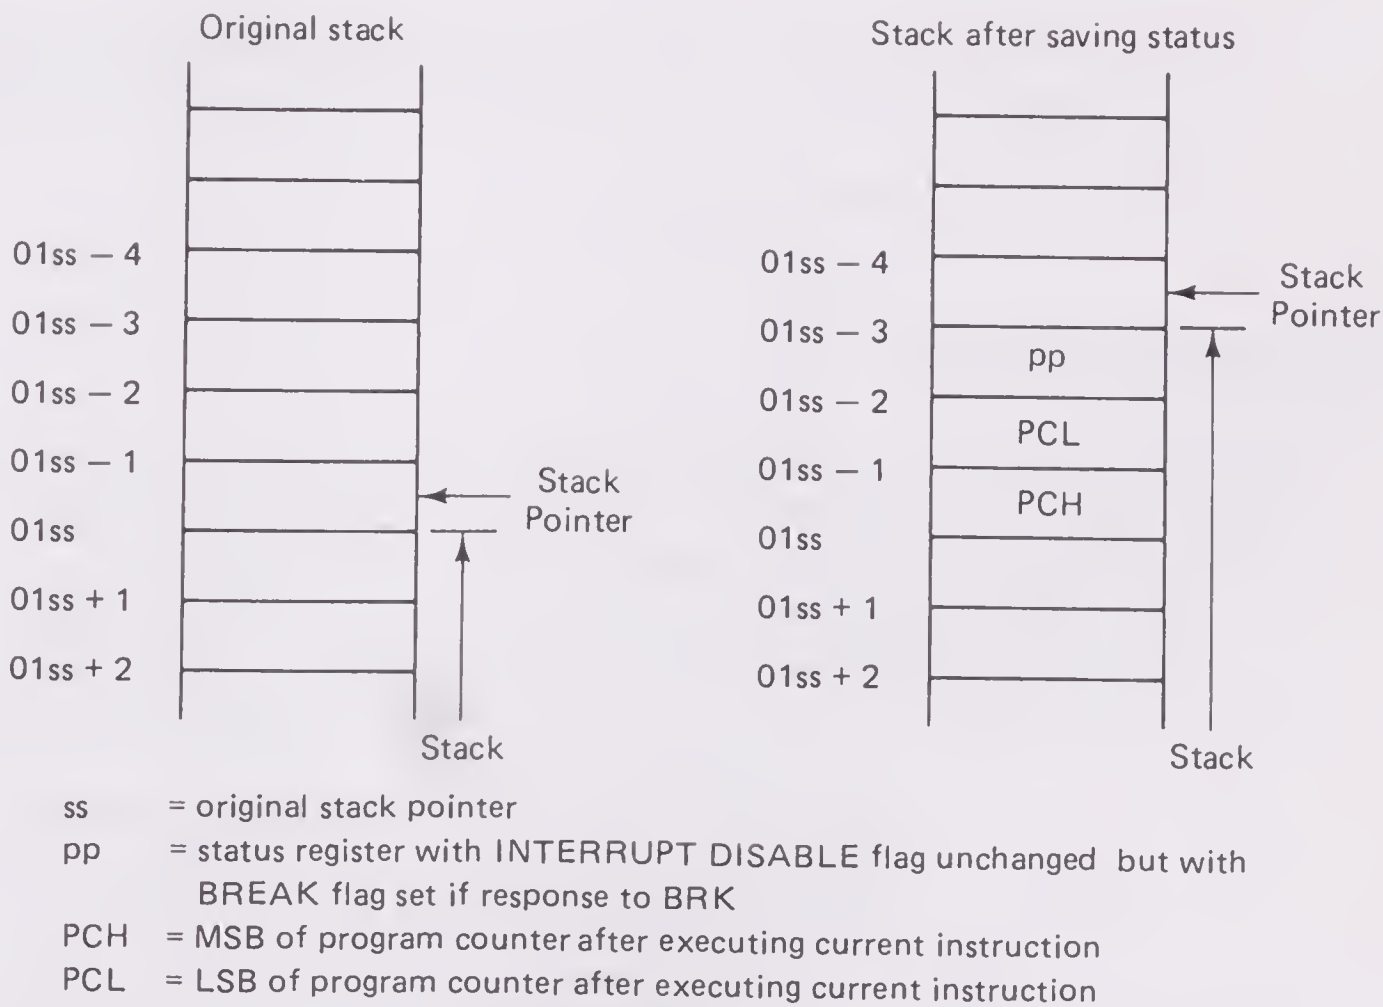

FIGURE C-1. Saving the 6502's status in the stack.
**CLI** clear interrupt disable (enable interrupts); clear the INTERRUPT DISABLE (I) flag, thus enabling the maskable interrupt ( $\overline{\text{IRQ}}$  input).
**RTI** return from interrupt; load the program counter and the status register from the stack, assuming that they were saved as shown in Figure C-1.
**SEI** set interrupt disable (disable interrupts); set the INTERRUPT DISABLE (I) flag, thus disabling the maskable interrupt ( $\overline{\text{IRQ}}$  input).
The 6502 responds to an interrupt by completing its current instruction and then fetching a new program counter value from a fixed pair of memory locations (see Table C-1). The processor saves the old program counter (the address of the next instruction) and status register in the stack automatically, as shown in Figure C-1. RTI at the end of the service routine restores the registers saved during the response.